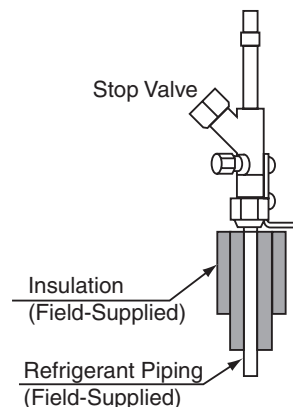

Fig. 8.2 Insulation on Pipes
- Insulate the refrigerant pipes as shown in Fig. 8.2.